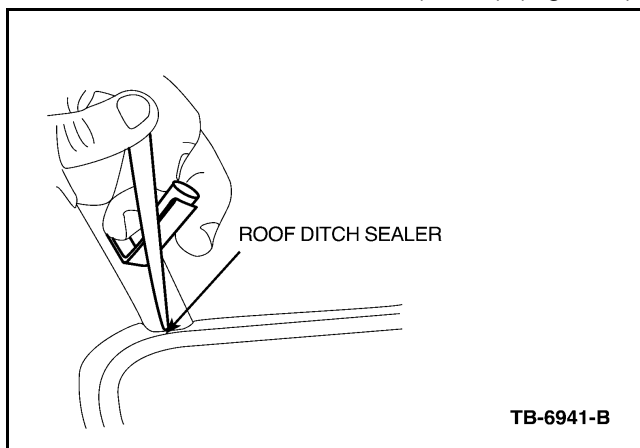

Figure 5 - Article 05-13-3
1. Inspect for sealer skip behind roof ditch moldings. Fold the ditch molding back and inspect for a pinhole in the body seal just above the windshield. Reseal as necessary with Motorcraft Roof Ditch Sealer (TA-15) (Figure 5).